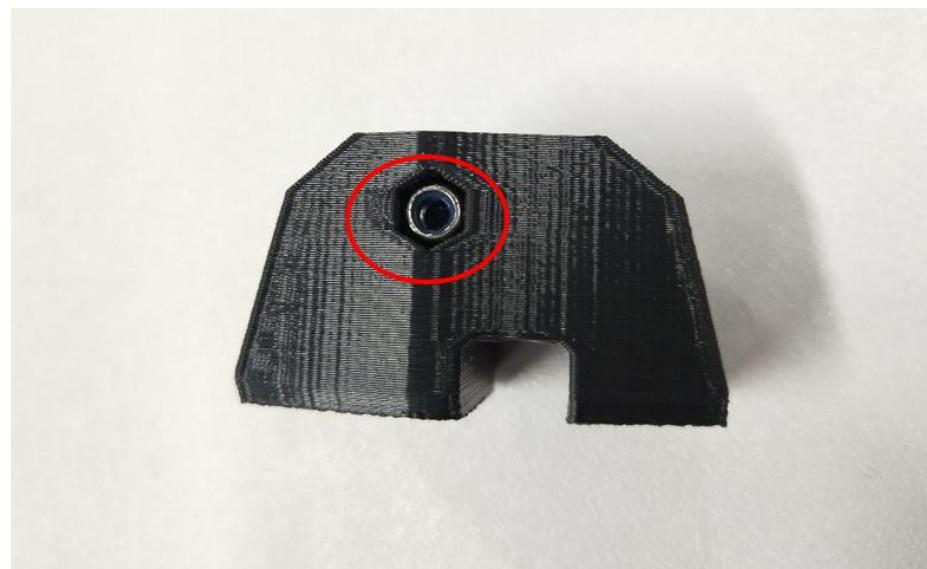

Figure 1.10.5
**Step 1-10-3:** As shown in Figure 1.10.5, insert the M3 lock nut into the hexagonal slot on the MINI-y-idler print.